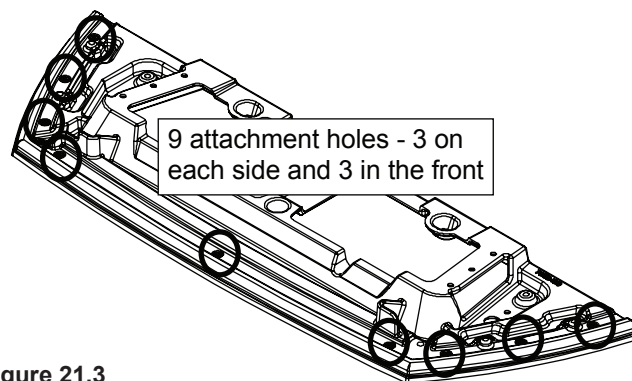

Figure 21.3
8. Open the door and attach the hearth support to the insert. There are 9 attachment holes (**Figure 21.3**).